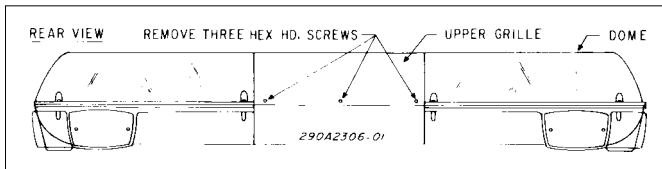

Figure 1.
1. Remove the three hex head screws and Tinnerman clips on the rear of the upper grille (see figure 1). Remove grille.